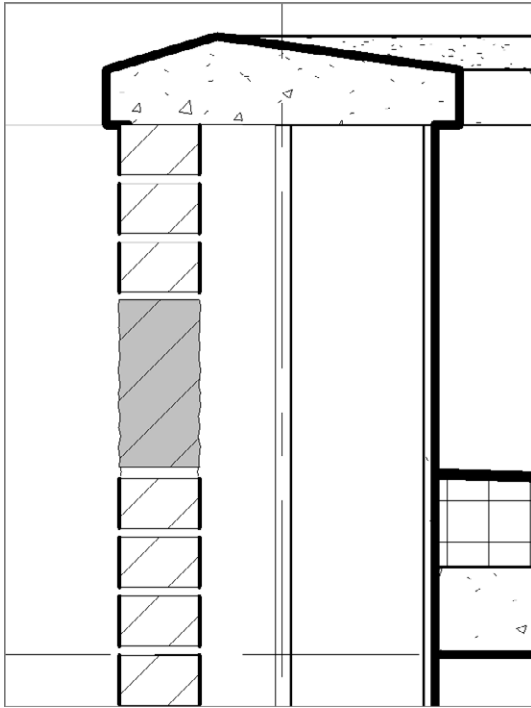

FIGURE 12.29: The new soldier brick in the model
- 23.** Delete the extra brick. Your wall should look like Figure 12.29.